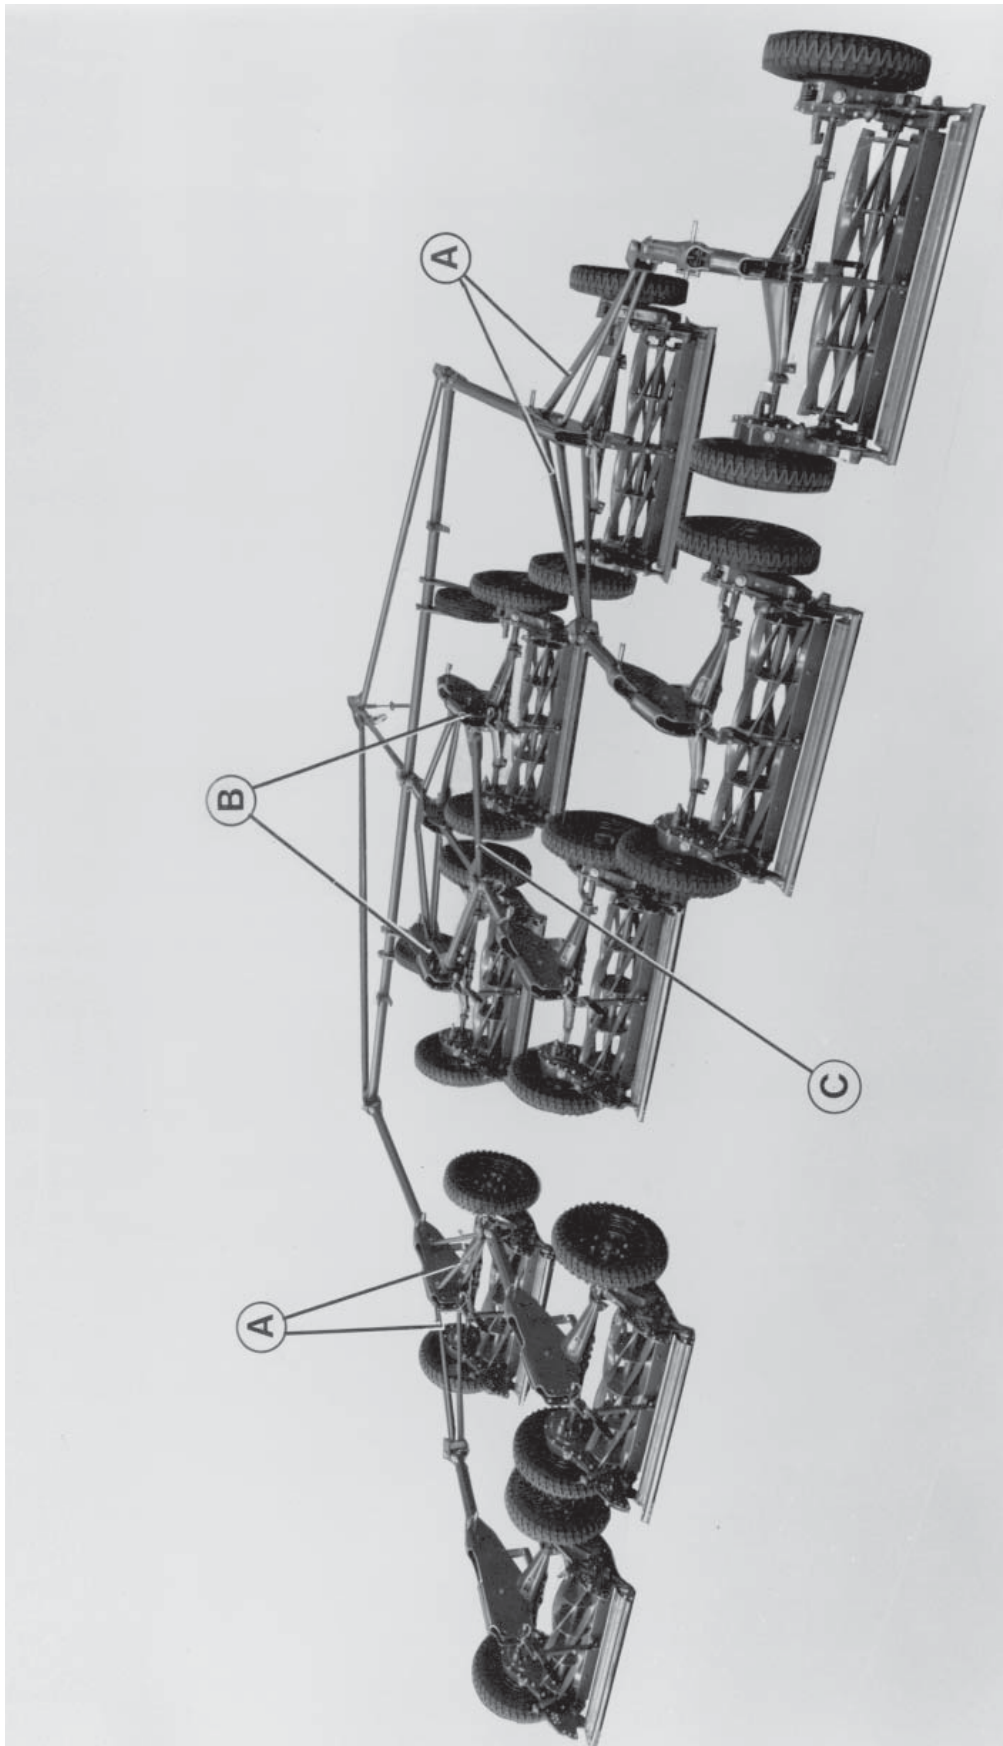

Fig 14
2. (Fig. 14). To two of the units fitted with unit frames and long drawbars fit extension wings (A) to both sides using long bolts to secure the rear and short bolts at the front.
3. Position the two units without drawbars side by side. Remove the hinge plates (B) from the twin coupling frame and bolt these to the inner sides of the unit frame using long bolts at the rear and short bolts at the front. Locate twin coupling frame (C) on to the hinge plates and secure with clips. Fit short drawbar to front of twin coupling frame. Remove hitch pin and with the lubricating nipples on top insert the drawbar into the front of the unit frame. The slot must fit over the distance piece which is already in position. Insert the hitch pin and secure with spring clip.